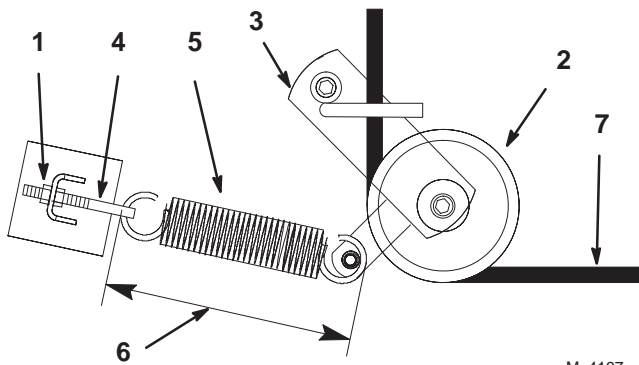

Figure 60
3. Loosen outer nut on spring eye bolt (Fig. 60).
5. Remove spring loaded idler pulley (Fig. 60).
6. Route new belt through idler arm (Fig. 60).
8. Retighten outer nut on spring eye bolt (Fig. 60).
Note: Check spring length. The spring should measure 9-3/8 in. ± 1/8 in. (238 mm ± 3 mm) when installed. Adjust if it does not (Fig. 60).